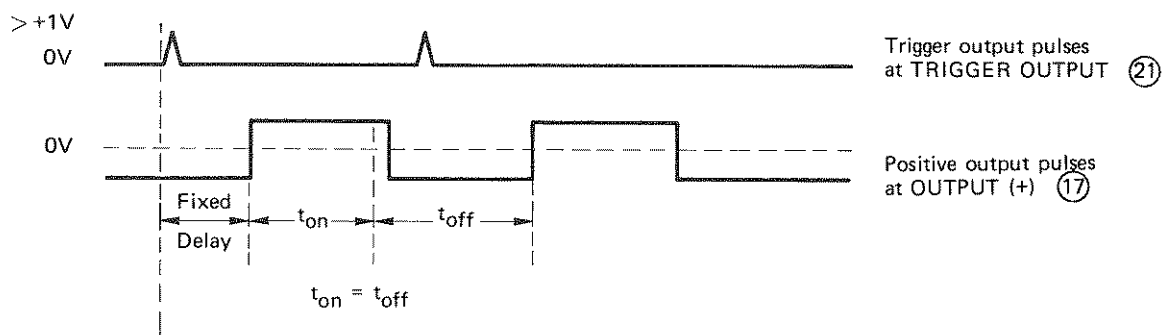

Figure 3-12. Output pulses in square wave mode
3-32 The output pulses should appear at the OUTPUT (+) connector (17) as shown in figure 3-12.